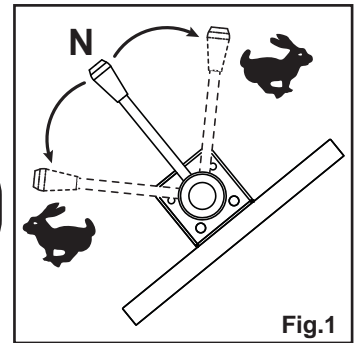

Fig.1
2. Ensure that before starting the Power pack that all connections are tight and that the control valve on the striker is in the **NEUTRAL** position (See Fig. 1)
6. To stop the roller striker, move the Control Lever to the **NEUTRAL** position (See Fig. 1)